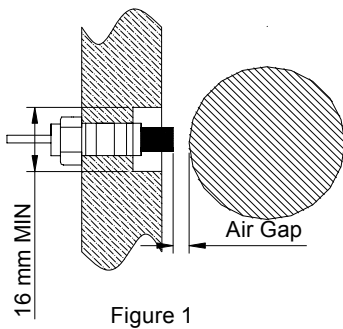
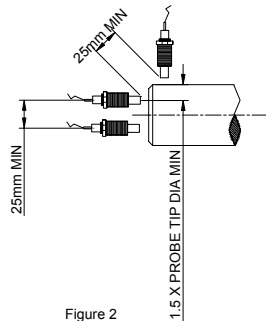

Figure 1
Figure 2
- 1) Please mount the probe in axial direction for TR3102 Three-Wire Transmitter for Thrust Position monitoring system. Keep the distance between probe tip and shaft about 0.05" (1.25mm). In order to avoid wrong output, please make sure there is enough distance between probe tip and the other metal material which is monitored. The least distance is 0.63" (16mm), please refer to Figure 1. For exact gapping procedure see the section **Set-up Procedure** of chapter **Operation**. When mounting two probes adjacently, the two probes should keep 1" (25 mm) at least as shown in Figure 2.